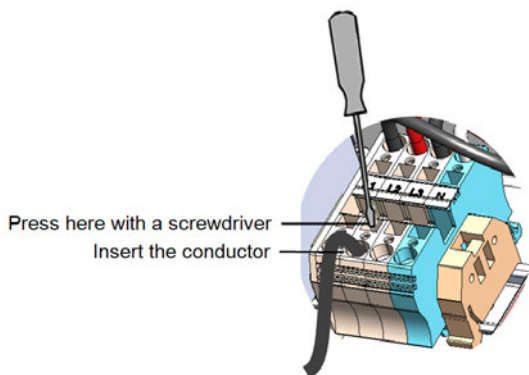

Figure 24: AC Spring-clamp terminal – 9kW, 10kW, 20kW inverter
1. Use a standard flat-blade screwdriver to connect the wires to the spring-clamp terminals (See *Figure 24*).